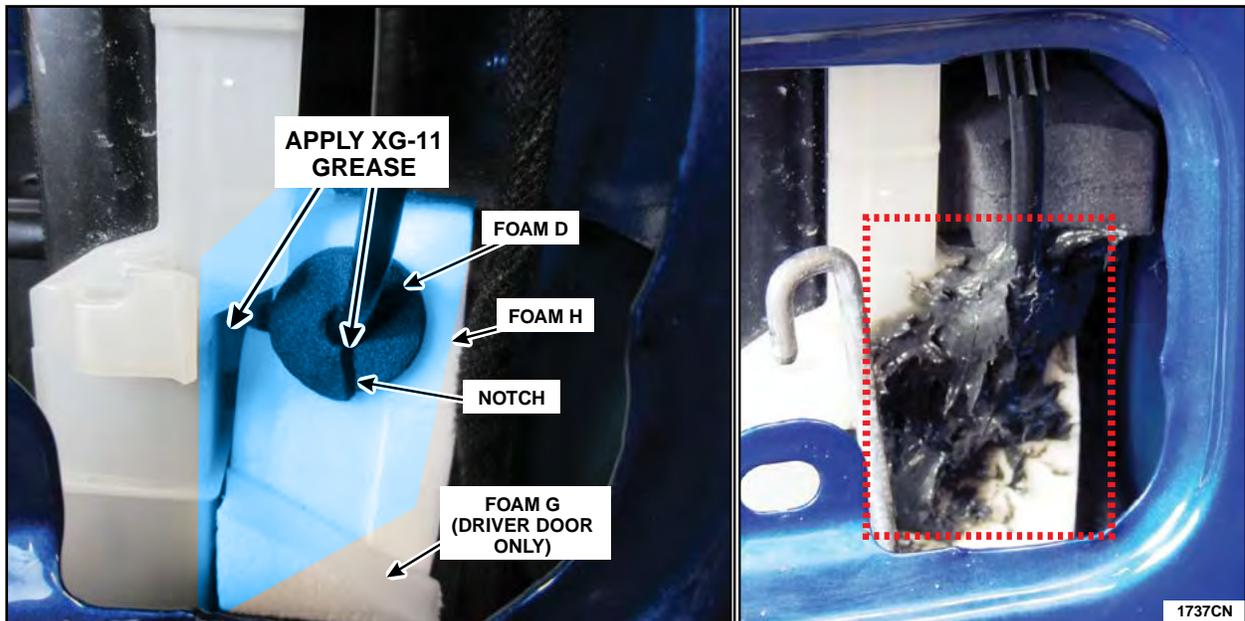

FIGURE 38
9. Apply XG-11 grease on top of and around Foam D after Foam D is installed. The Foam D notch, the gap between the cable and Foam D, and the gap between the door glass run and Foam H must be covered with grease. See Figure 38.